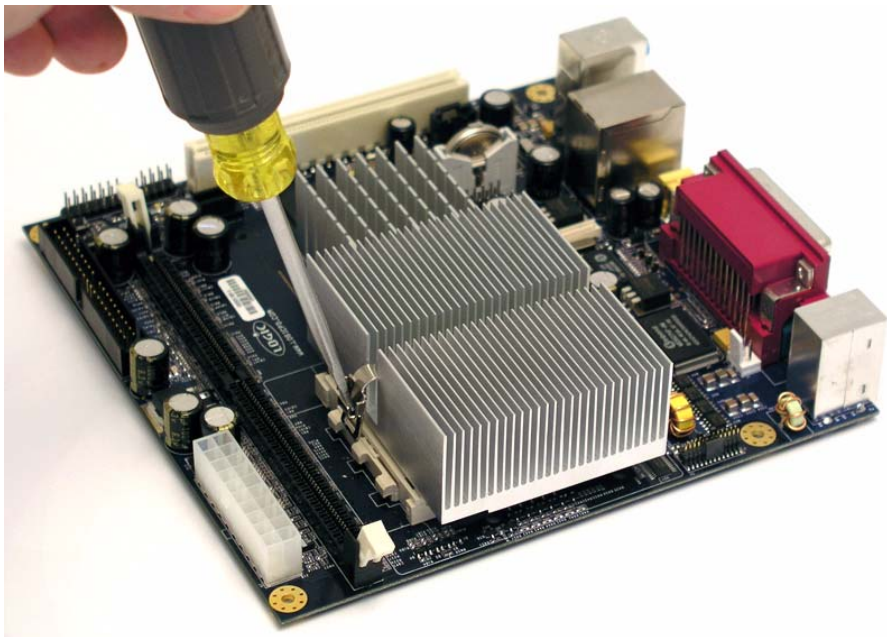

Figure 2.6 – Connect the Clip
- 3) Secure the heatsink to the CPU socket by connecting the heatsink clips to the CPU socket, attaching the clip at the center point. Next, carefully connect the clip by using a flathead screwdriver as shown in Figure 2.6.